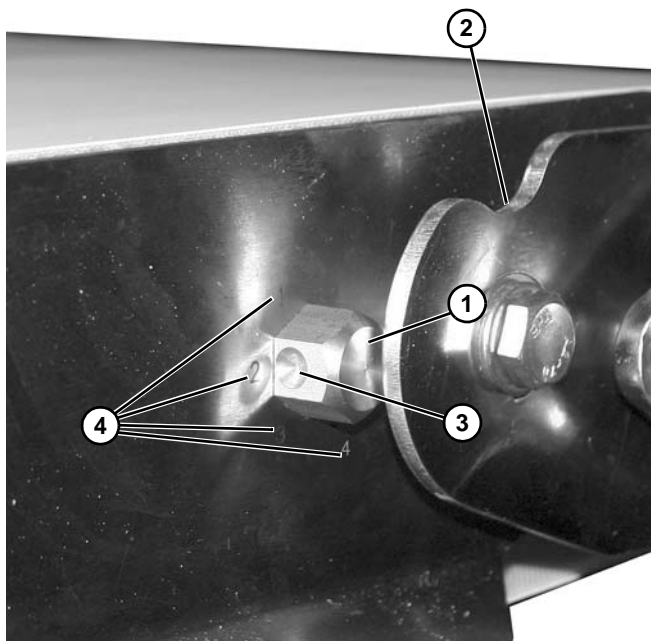

Figure 115
- Rotate idler end so that hex bar (**Figure 115, item 1**) fits into notched area (**Figure 115, item 2**).
- Adjust dimpled side (**Figure 115, item 3**) of hex bar into one of four locations (**Figure 115, item 4**) (labeled 1-4 on conveyor).
The elevation of change of tail is as follows (**Figure 115**):